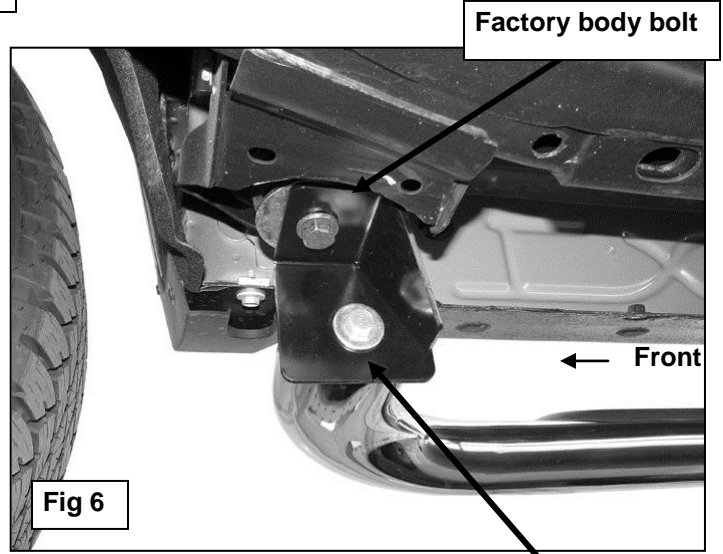

Fig 6
5. With assistance, position the Sidebar up to the front and rear Mounting Brackets. Attach the Sidebar to the Brackets with the included (2) 1/2" x 2" Hex Bolts, (2) 1/2" Lock Washers and (2) 1/2" Flat Washers, **(Figures 6 & 7)**. Do not tighten hardware at this time.